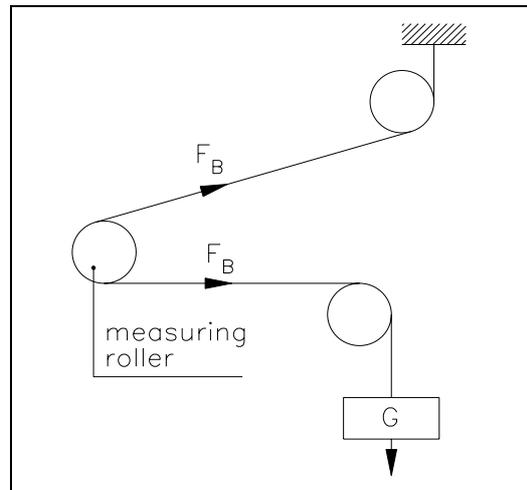

fig. 11: Calibrating the measuring amplifier C431011e
The following instructions are referring to a setup and calibration on-site. The material tension will be simulated by a weight (fig. 11).
- Load material or rope with a defined weight (fig. 11)